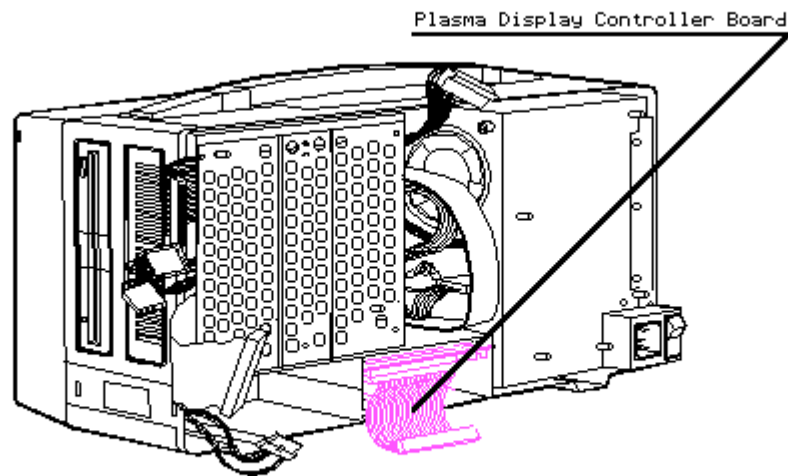

Figure 8-35. Plasma Display Controller Board Location
11. Locate the controller board shown in Figure 8-35.